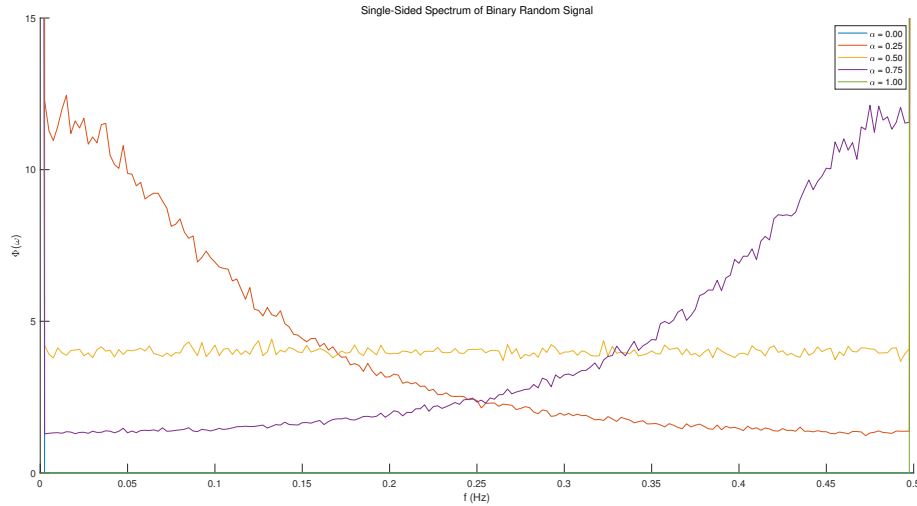

Figure 1: Spectrum of binary random signal.
- Plot for the spectrum of the binary random signal for the required values of α is shown in Fig. 1.
- The binary random signal we choose have the similar output spectrum as the one of the white noises, which can be seen from Fig. 1 and Fig ??